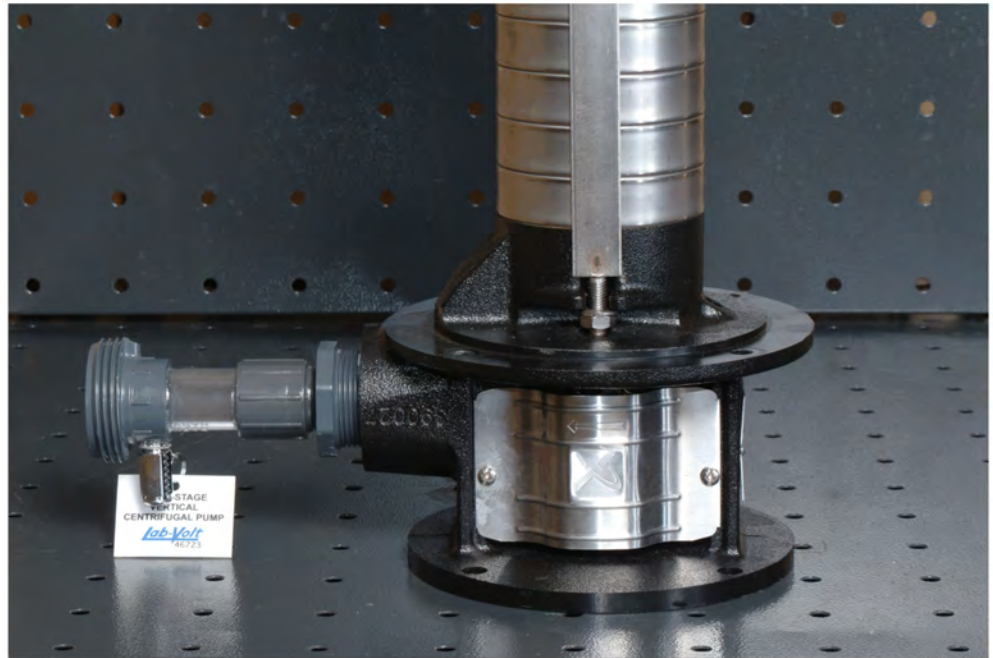

Figure 1-4. Place the pump upside down on a table.
- Place the pump upside down on the bench as shown in Figure 1-4.